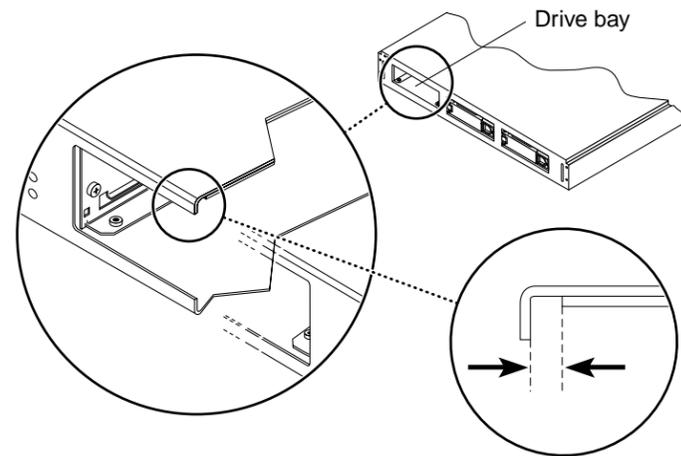

FIGURE 2 Locating the Drive Bay Groove
3. Check if the drive bay slot already has a gasket installed. Look inside the unoccupied drive bay and see if the drive bay already has the gasket installed. The gasket would be installed in a top groove, near the front of the drive bay (FIGURE 2).